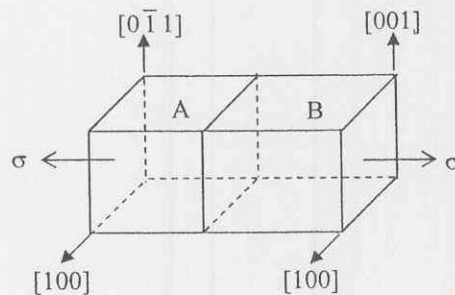

Figure 2
- 1) A bicrystal with a simple cubic structure is oriented as shown in Figure 2. Which crystal will slip first if the slip system is $\{100\}\langle 100\rangle$? (5%)